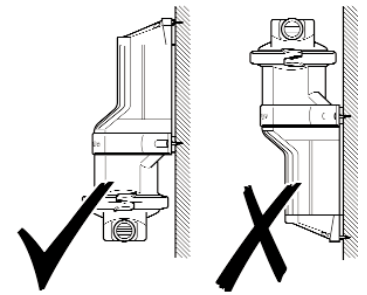

Fig. 3 - Pump Orientation
- Fig 3 Pump Orientation
- When mounted vertically ensure that the pump head is lower most (Fig 3).